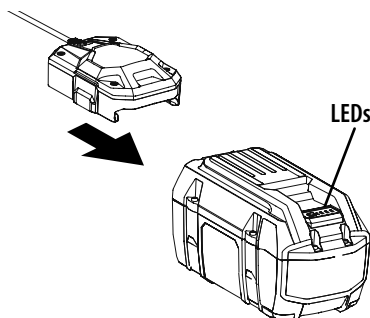

Figure 1
- Connect the charger and battery pack (Figure 1), making sure the battery is fully seated. The (charging) light will blink continuously indicating that the charging process has started.